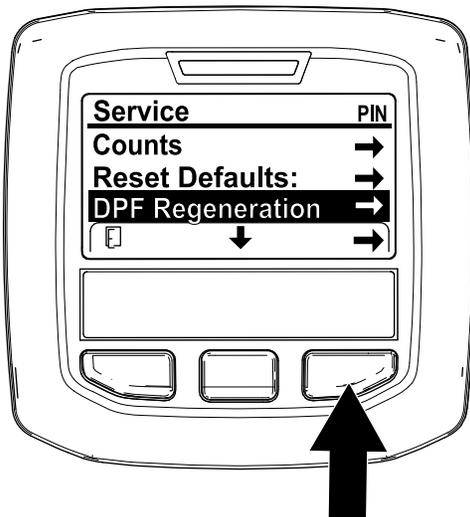

Figure 35
1. Access the Service menu, press the center button to scroll down to the DPF REGENERATION option (Figure 35).
2. Press the right button to select the DPF Regeneration entry (Figure 35).